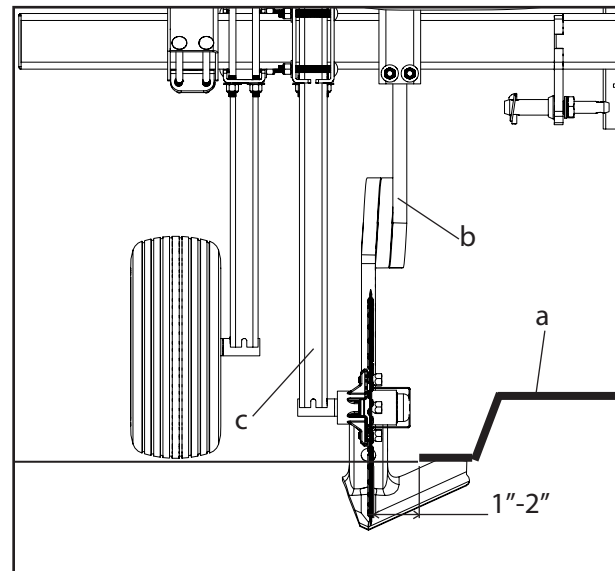

Figure 6: Settings the Width
- Adjust the shovel shanks so that the edge of the plastic (a) is 1"-2" from the inner side (b) of each shovel shank as shown (Figure 6).
- Position the side coulters (c), position them so that they are centered with the shovel shanks (b), as shown (Figure 6).
- Adjust the side coulters so that they run at approximately the same depth as the shovel on the shovel shank, and they are centered with the shovel shank as shown (Figure 6, Page 6).
- Adjust the side coulters so that they run at approximately the same depth as the shovel shank, and that they are centered with the shovel shank as shown (Figure 6, Page 6).